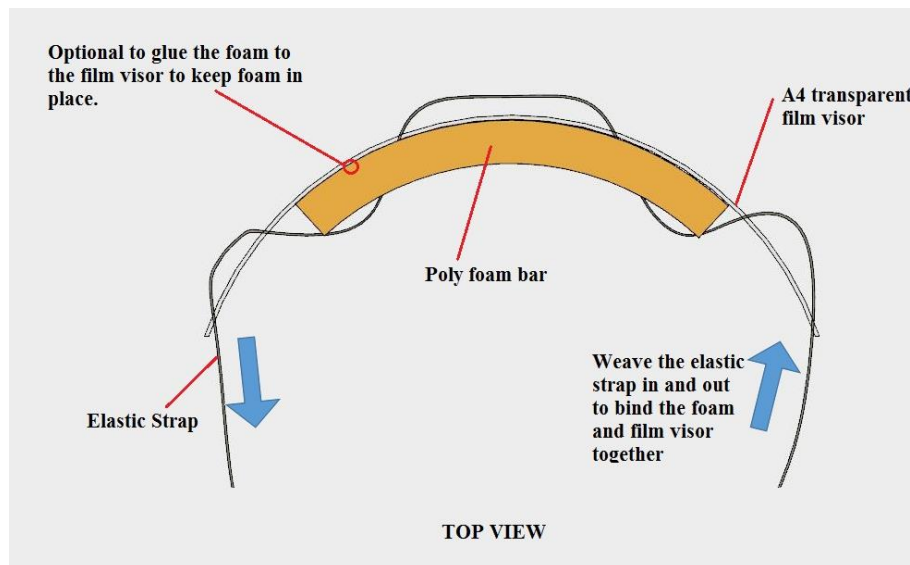

Figure 2 Passing the elastic strap through the slits
Step 3 – Place the foam bar on the longer side of the A4 transparent film in the center and align the slits on the foam to the slits on the A4 film. Carefully pass the elastic strap through the slits as shown in Figure 2. This will become easier after few tries. In Figure 2 we are looking at the face shield from the top. As you weave the elastic strap in and out, the film will likely bend a bit and take its rounding shape. If the elastic strap is not tied the film will return to its normal flat shape. We don't recommend tying a knot until the user has put it on. This is so that it can be adjusted by the user.